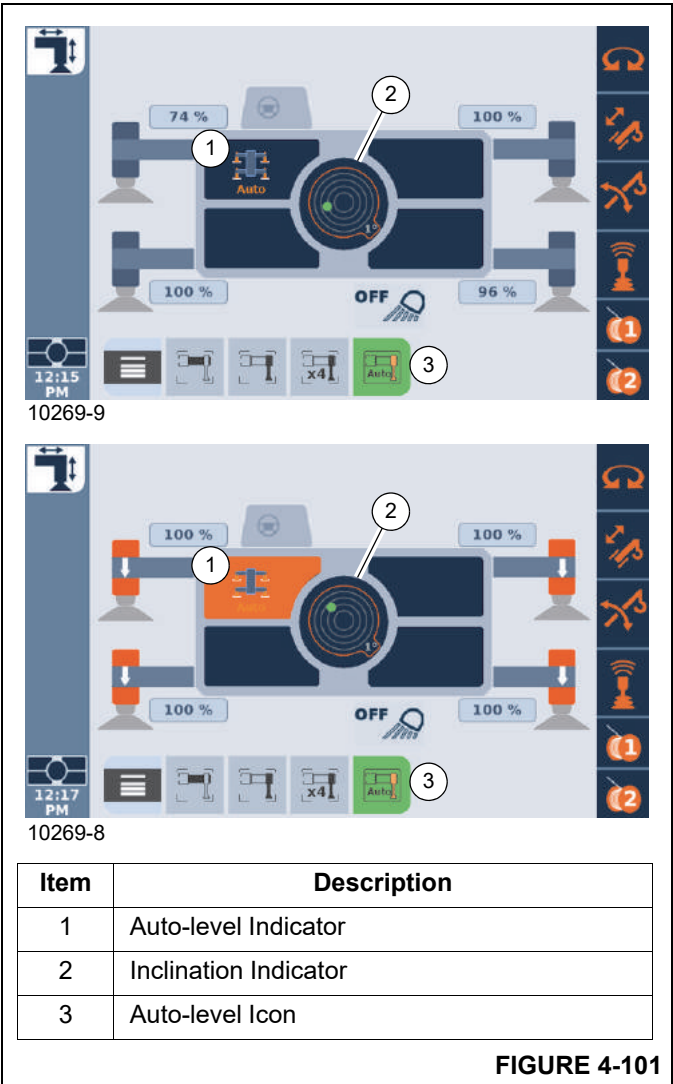

FIGURE 4-101
- 2. Using the Jog Dial, or the Arrow Buttons at the Navigation Control Pad, select the Auto-level icon (3, Figure 4-101) (icon will turn orange when selected).
- 3. Press the Jog Dial, or the OK Button at the ODM, to make the Auto-level icon active (icon will turn green when active). The Outrigger Extend/Retract screen will also change to show the Auto-level indicator (1, Figure 4-101).
After an adjustment is made, the auto-level system will pause for a short time as it does a levelness check of the crane. The operator can watch the leveling process by viewing the inclination indicator (2, Figure 4-101).
When crane is level within 0.10°, the Auto-level Indicator (1, Figure 4-101) flashes. When this occurs, the auto-level process is complete and no further adjustments are made.